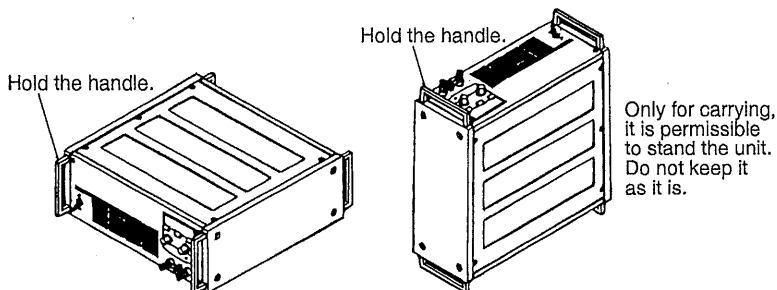

Fig. 1-2C Precaution for moving (model 1000W)
- Only for carrying, it is permissible to stand the unit as shown in Fig. 1-2C, and carry it by two persons, one each holding one front panel handle. After moving, quickly place the unit with its bottom underneath.